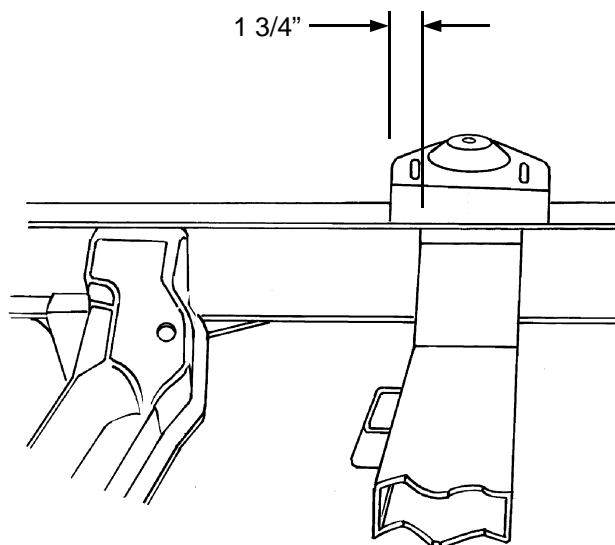

Figure 5
7. Next are the spring towers. They sit on top of the frame rails. They are prefitted for your frame and are located as shown in Figure 5. They are 1-3/4" forward from the front of the crossmember, measuring as shown in Figure 5. The high side of the spring tower goes towards the front end of the frame. Clamp in place, double check your dimensions, and weld all around, including the gusset flanges on the sides of the rails. For added strength, you can also weld the inside of the gusset flanges.